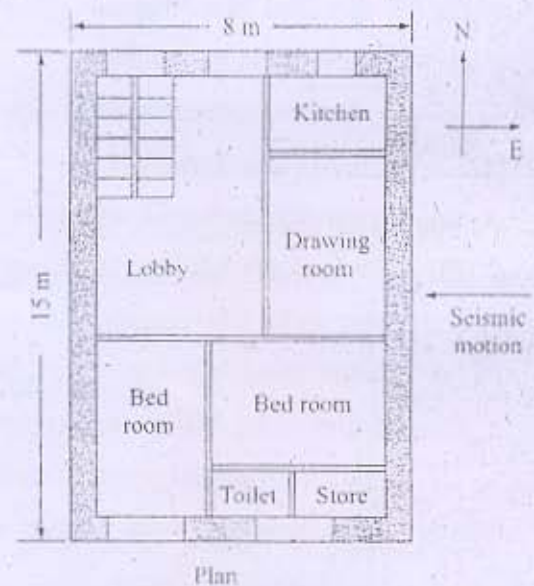

Figure 5
- (b) The masonry building as shown in **Figure 5** is made up of North, South, East and West walls. The rigidity of all four walls is 0.462, 0.538, 0.5 and 0.5 respectively. Height of parapet wall = 1 m, height of walls up to roof levels = 3 m, self weight of roof = 3.0 kN/m², self weight of the wall = 5.0 kN/m². Calculate location of centre of mass and center of rigidity.